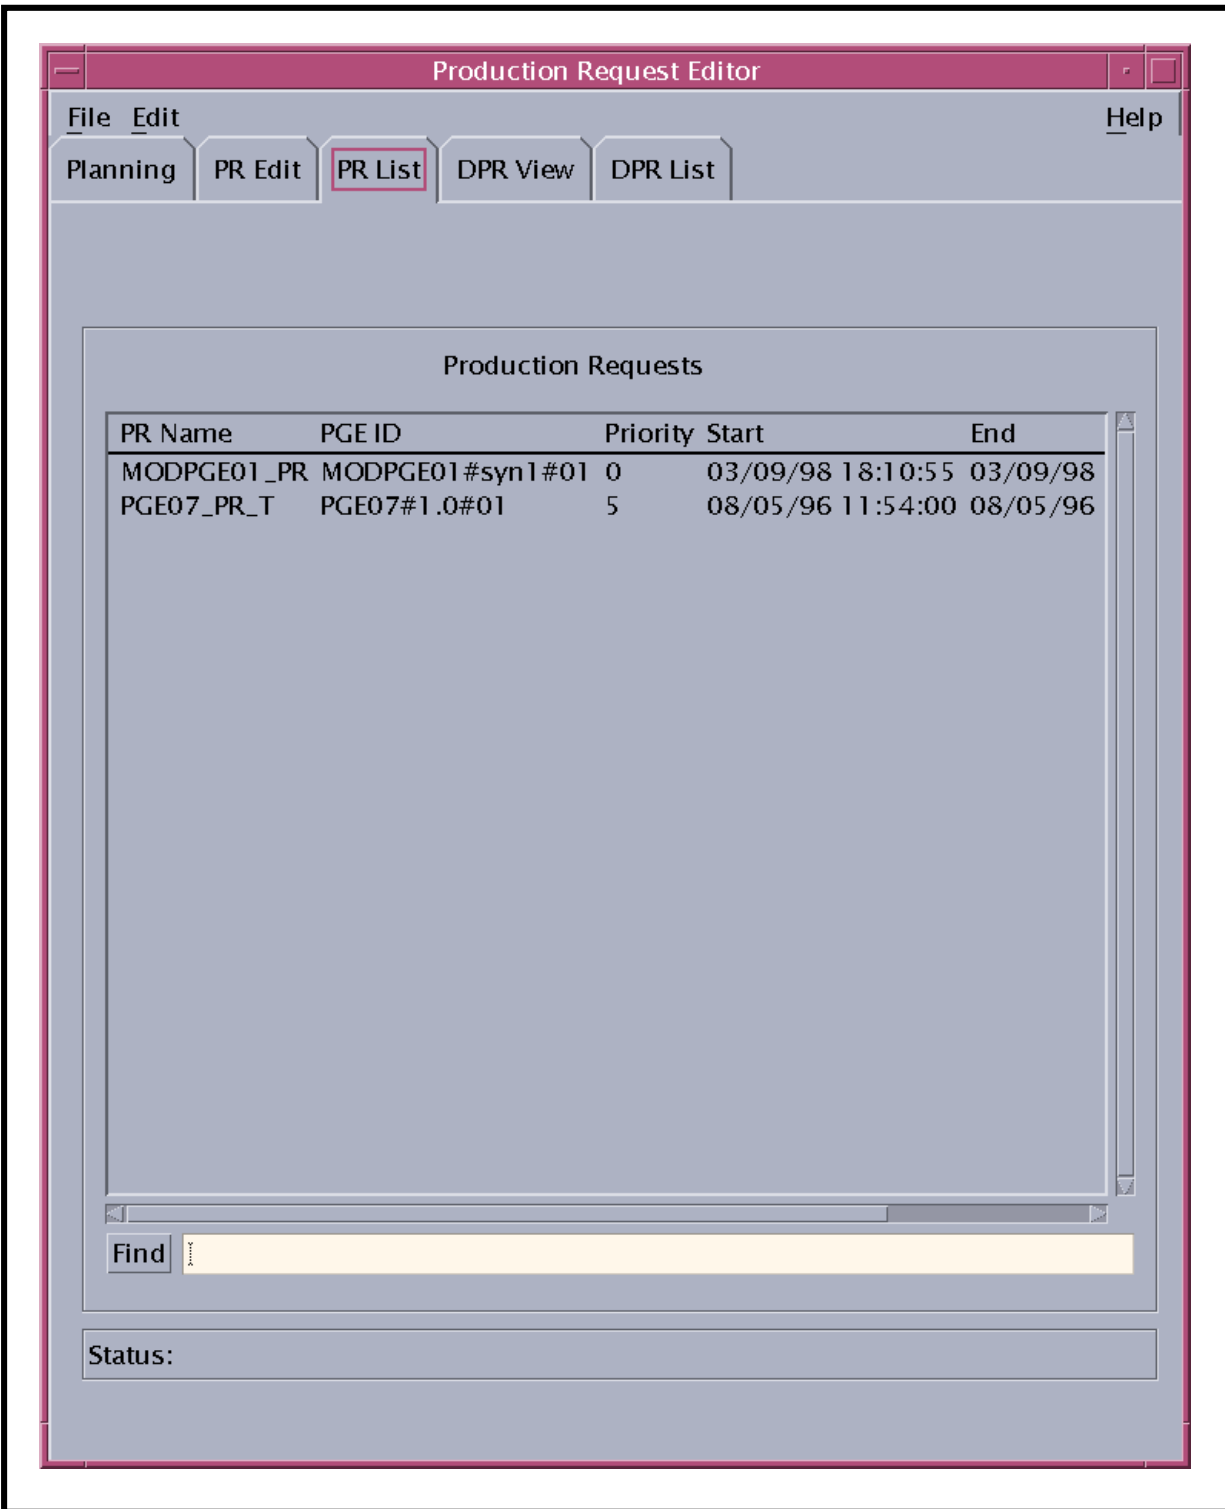

Figure 23. PR List GUI
- The **PR List** GUI page (Figure 23) is displayed.